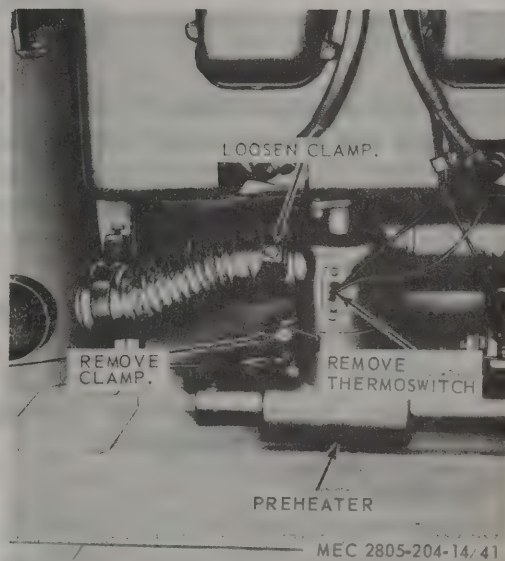

Figure 3-32. Preheater, removal and installation.
a. *Removal.* Refer to figure 3-32 and remove preheater.
(1) Clean all parts with an approved cleaning solvent and dry thoroughly.
(2) Inspect for cracks, breaks, and other damage.
(3) Replace a damaged or defective preheater.
c. *Installation.* Refer to figure 3-32 and install preheater.